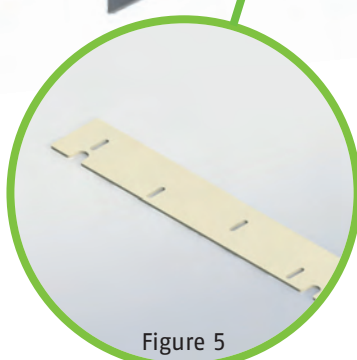

Figure 5
- **Adjustable counter blade** standard equipment (Figure 5)